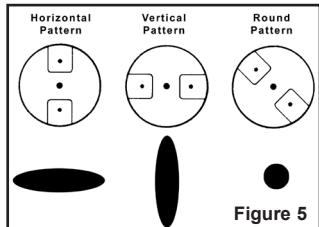

Figure 5
- Spray pattern shape (see Figure 5) - loosen the air cap nut and turn the air cap for the desired spray pattern. Hand tighten the air cap nut after adjustment.